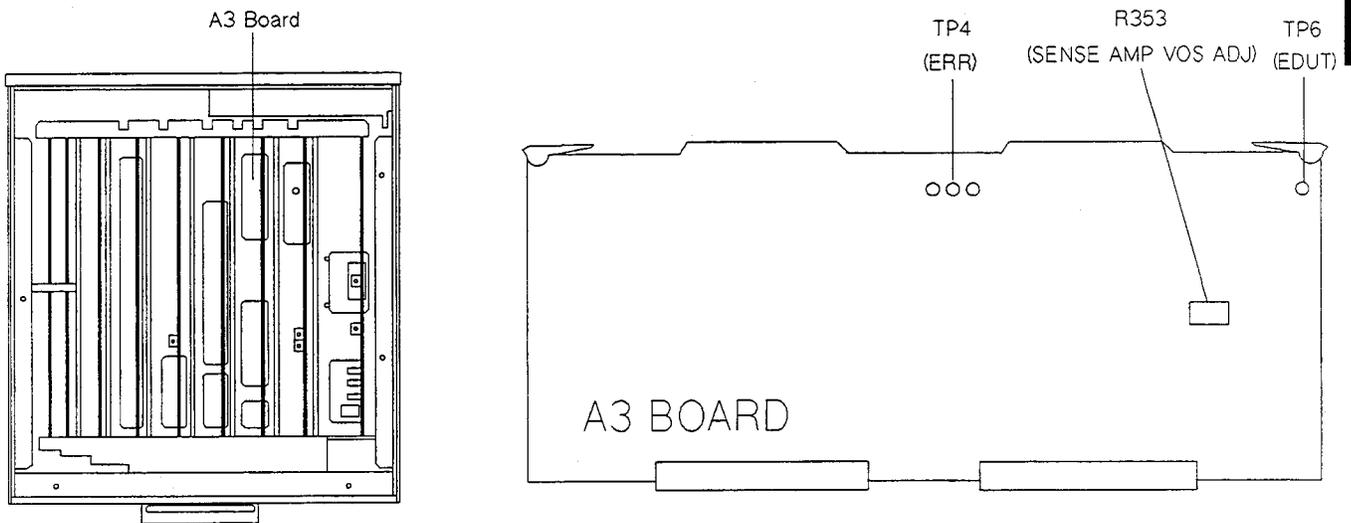

Figure 2-9. Sense Amplifier DC Offset Adjustment Location
5. Connect the multimeter Lo input to A3TP4 (**ERR**). Then connect the multimeter Hi input to A3TP6 (**EDUT**). Figure 2-9 shows the location of TP4 and TP6.
6. Adjust A3R353 (**SENSE AMP VOS ADJ**), until the multimeter reads  $0 \pm 10$  mV. Figure 2-9 shows the location of A3R353.